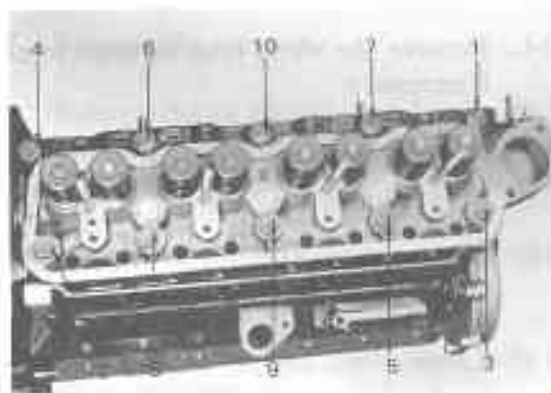

Fig 3-2 Head Bolts Loosening Order V3115
27. Remove the cylinder head bolts, and remove the cylinder head and the gasket. When loosening the cylinder head bolts, follow the order in accordance with the numbers shown in figure 3-2 in three progressive steps.